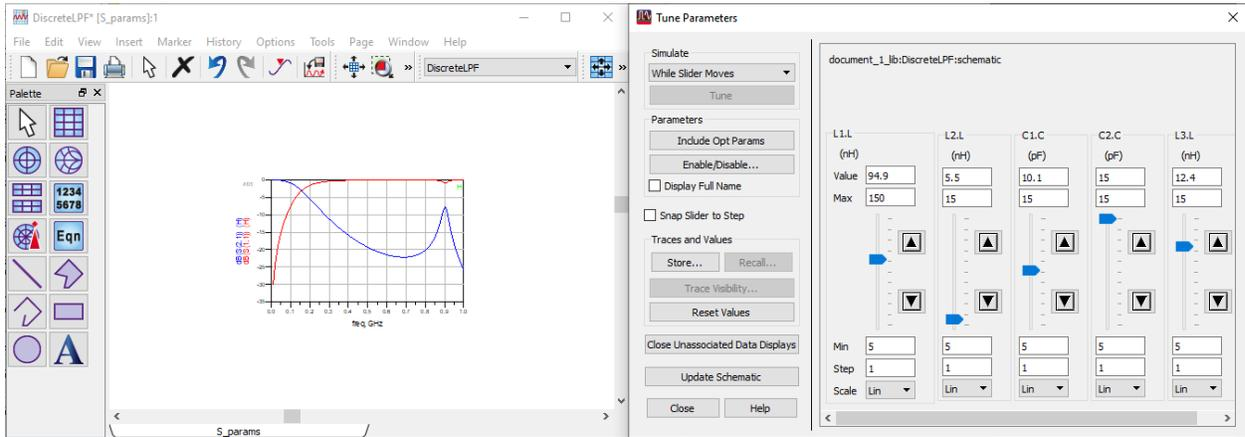

Figure 6. Plot different tuning values
- Open the data display window. In the Tune Parameters window, move the component value slider. The S(1,1) and S(2,1) values will update as you tune the components. This layout is shown in Figure 6.